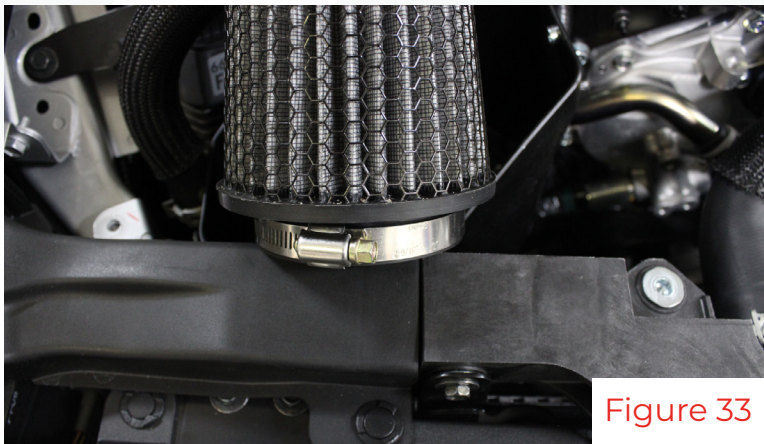
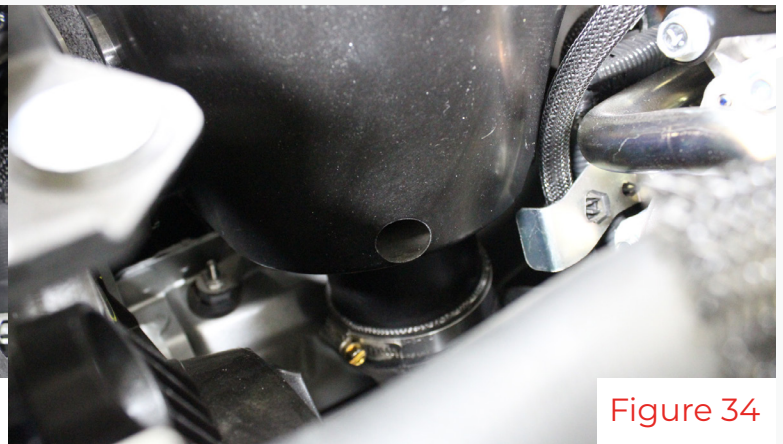

Figure 33
Figure 34
17. Using one of the provided air filters, position the clamp as shown(fig 33) so it can be tightened through the hole in the lower airbox (fig 34).